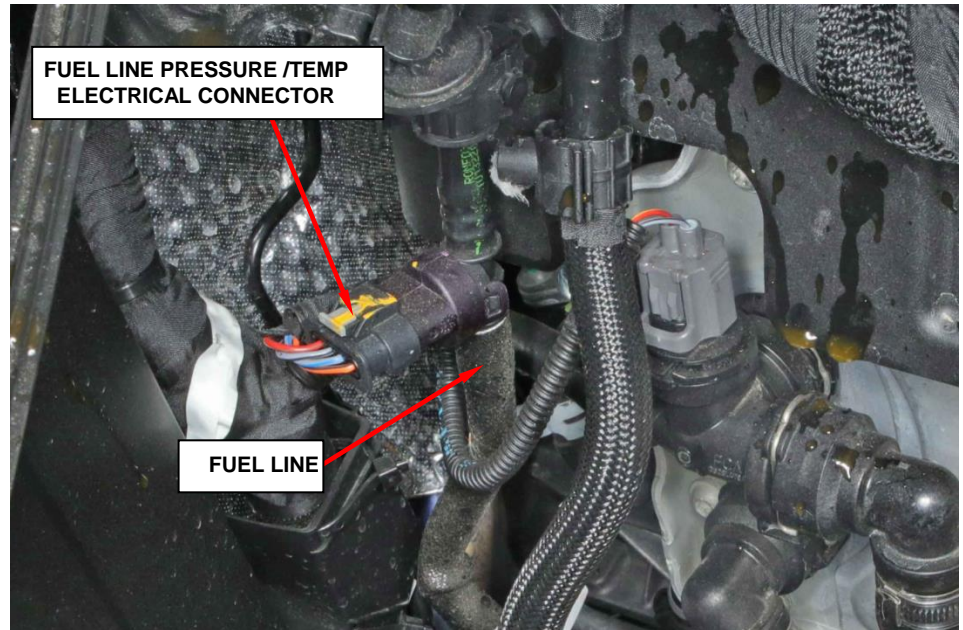

Figure 11 – Fuel Line Pressure/Temp Sensor
18. Disconnect the fuel pressure/temperature sensor electrical connector (Figure 11).